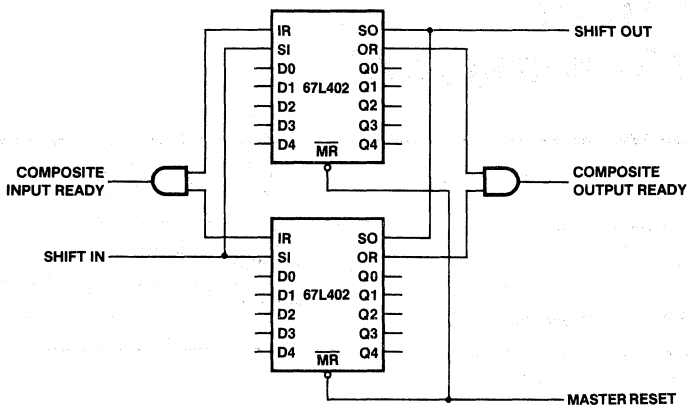

Figure 11. 64x8 FIFO With 67L402's
After power up the Master Reset is pulsed low (Fig. 11) to prepare the FIFO to accept data in the first location. When Input Ready (IR) is HIGH the location is ready to accept data from the Dx inputs. Data then present at the data inputs is entered into the first location when the Shift In (SI) is brought HIGH. A SI HIGH signal causes the IR to go LOW. Data remains at the first location until SI is brought LOW. When SI is brought LOW and the FIFO is not full, IR will go HIGH, indicating that more room is available. Simultaneously, data will propagate to the second location and continue shifting until it reaches the output stage or a full location. The first word is present at the outputs before a shift out is applied. If the memory is full, IR will remain LOW.